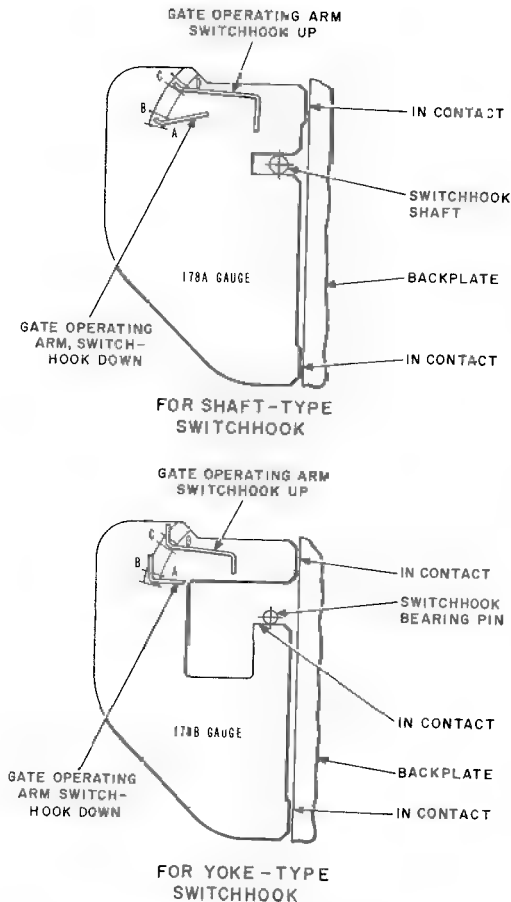

Fig. 38—Use of 178-Type Gauge
- (1) Deposit a single nickel which should be stopped by holding latch
- (2) Lower switch hook slowly to release nickel.
- 6.70** If requirement in 6.69 is not met, check operating arm using 178A or 178B gauge (Fig. 38).